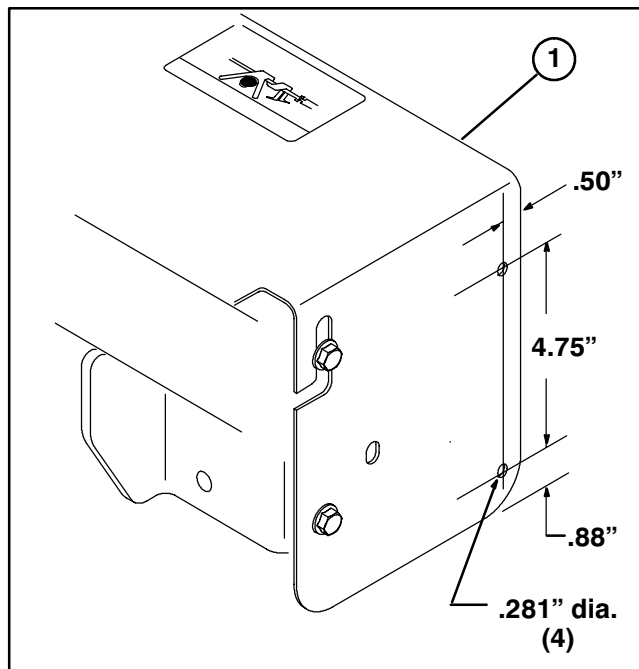

Figure 1
1. Using dimensions shown in figure 1, locate, mark and drill (2) .281 dia. holes in each side of PTO shield on Workman vehicle. If holes are already in shield, proceed to next step.